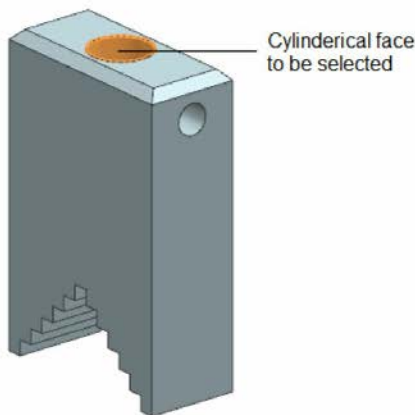
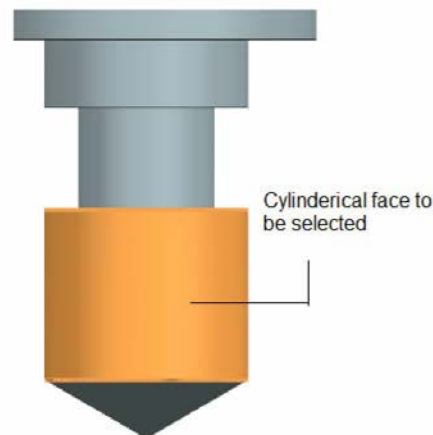

Figure 8-58 Cylindrical face to be selected from the Movable Jaw
Figure 8-59 Cylindrical face to be selected from the Screw
- e. Insert the Movable Jaw in the assembly window and apply the required assembly constraints, refer to Figures 8-58 through 8-62.
5. Choose the **Fit** option from the **Constraint Type** sub-rollout. Select the cylindrical face of the Movable Jaw as the first object, refer to Figure 8-58. Next, select the cylindrical face of the Screw as the second object, refer to Figure 8-59.